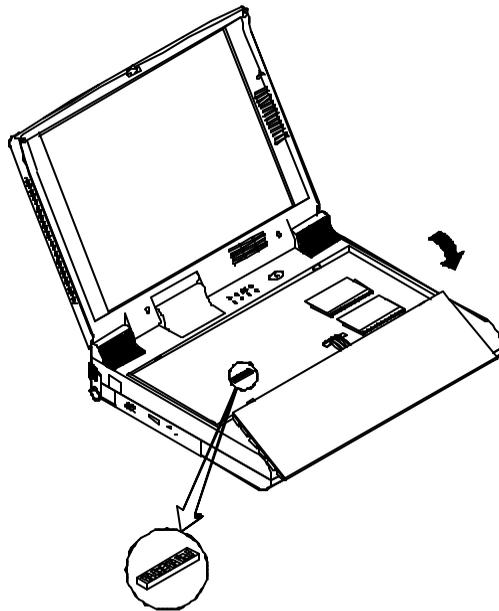

Figure 2-5
3. Carefully lift the keyboard assembly out so that the mainboard is exposed. Locate the 10-pole DIP Switch to set the configuration (Figure 2-5).